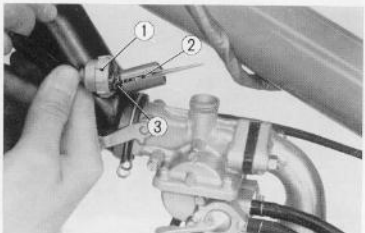

Fig. 4.11 Removing throttle cable from carburetor
3. Disconnect the throttle cable at the throttle valve by first unscrewing the carburetor cap ①, pulling out the throttle valve ② and then unhooking the throttle cable. ③ (Fig. 4.11)